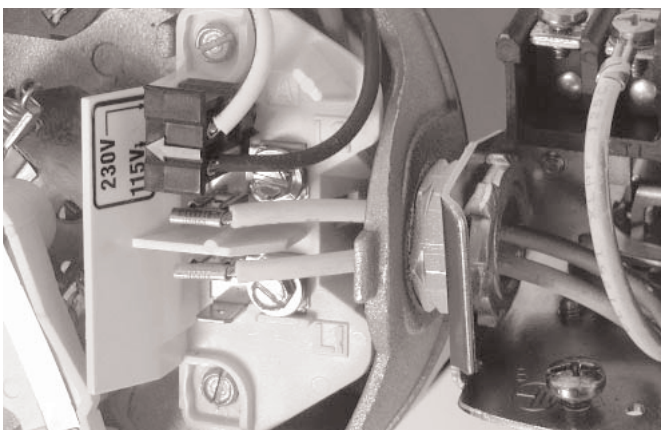

Figure 13: Voltage set to 115 volts, Plug Type
3. Move the voltage change plug to the 115 volt position. The plug will now cover 2 metal tabs and the arrow on the plug will line up with the 115V arrow on the label (see Figure 13).